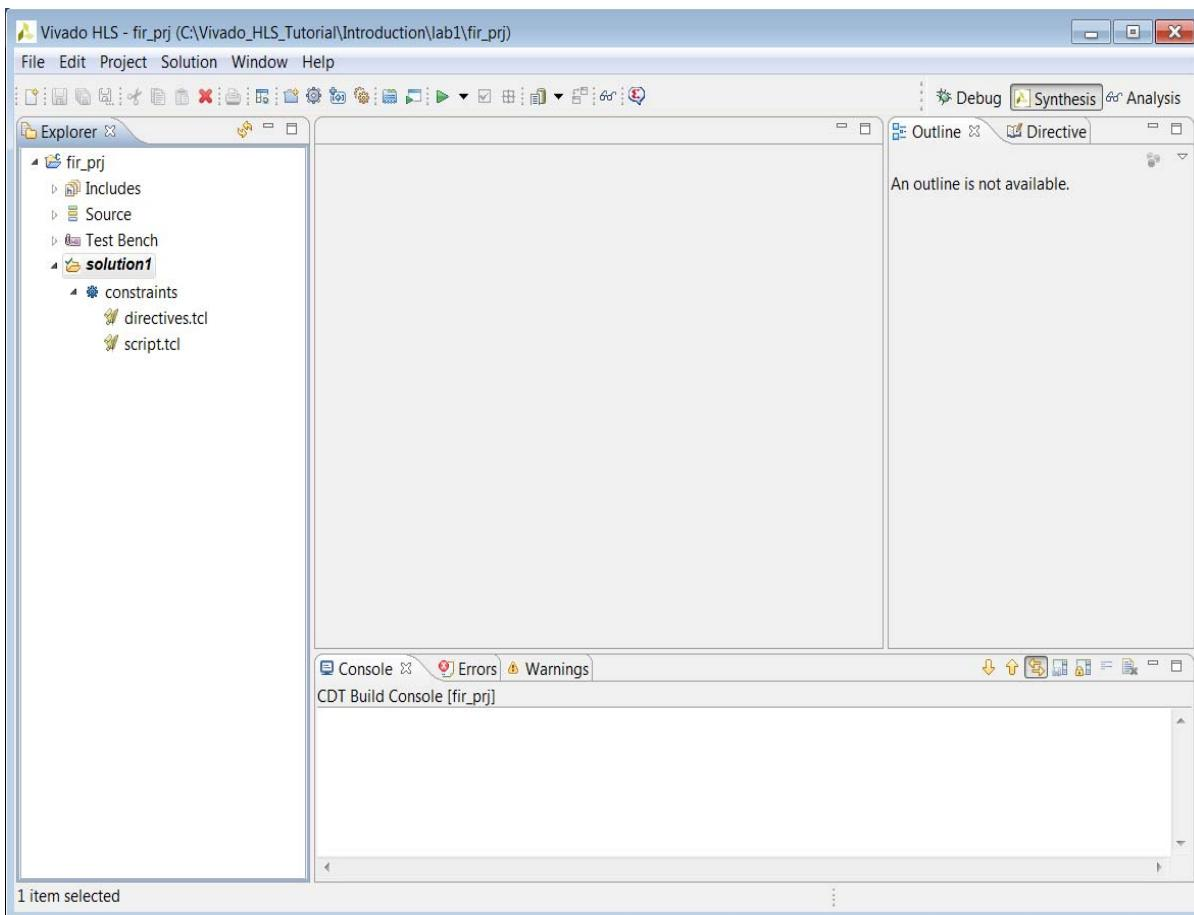

Figure 2-7: Vivado HLS Project
11. Click **Finish** to open the Vivado HLS project, as shown in Figure 2-7.